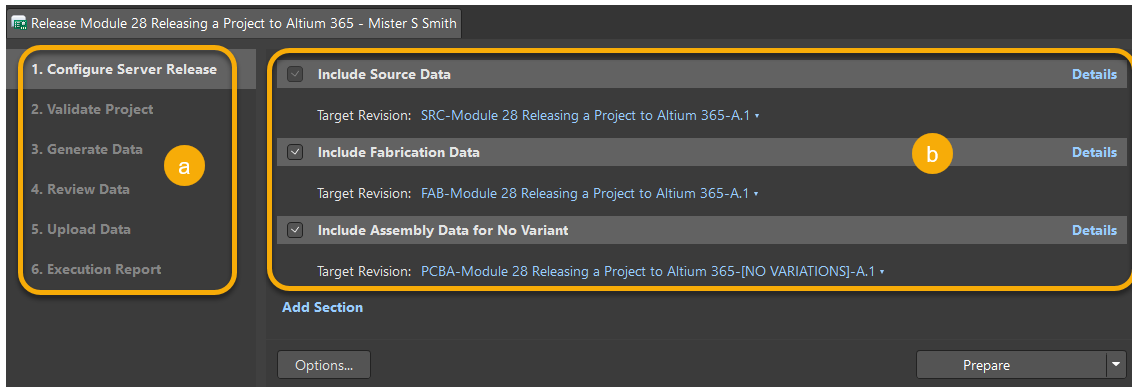

Figure 2. Release Process
11. Select the command **Project » Project Releaser...** to open the release process, Figure 2.